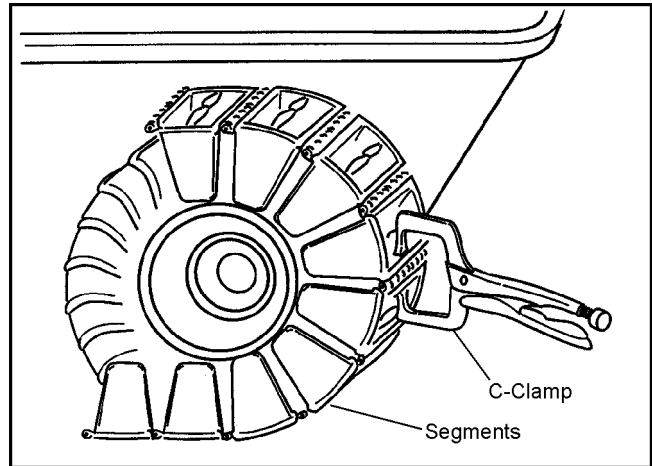

Figure 11-9. Track Assembly.
12. Join the two ends of the track and secure them in place with C-clamps as shown in Fig. 11-9, so that the 1/4" holes are lined up.
1. Use C-clamp to take tension off of track pin, as in Fig.11-9.